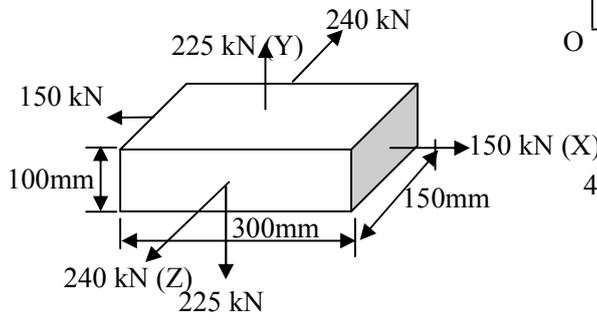

Fig. 11 Que 5(c)
- (c) A rectangular block of size 300mm x 150mm x 100mm is subjected to forces as shown in **Fig. 11**. If  $E = 75 \text{ GPa}$  and poisson's ratio is 0.25, calculate (i) Change in volume (ii) Modulus of rigidity and (iii) Bulk modulus. **06**